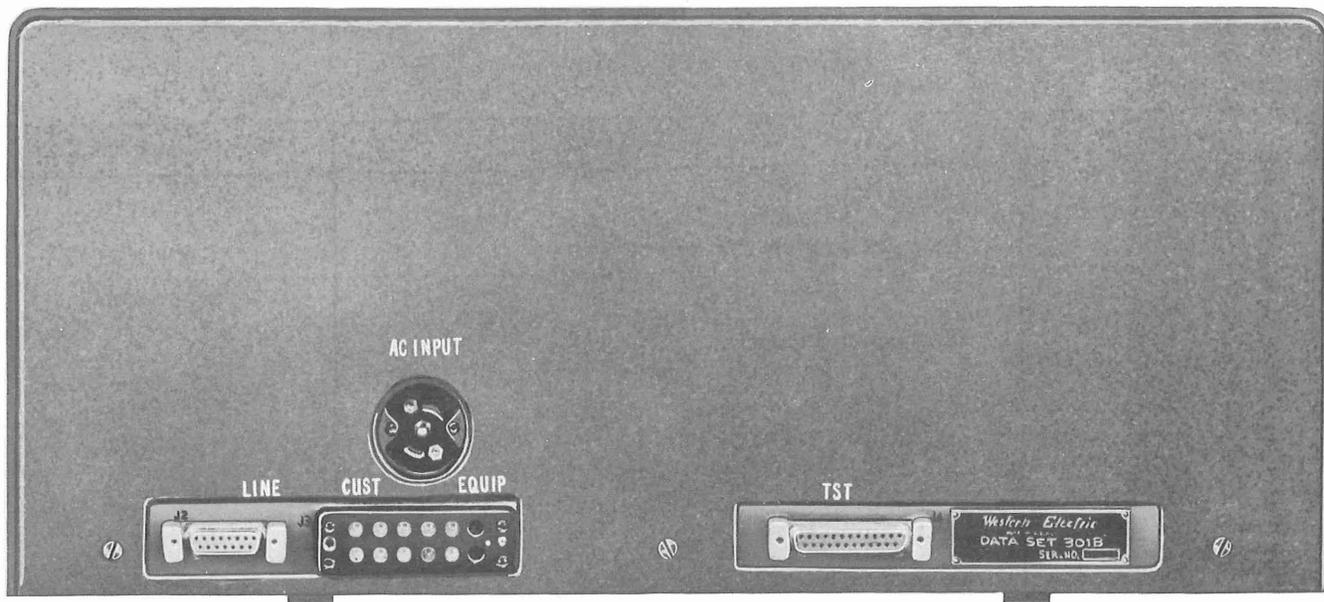

Fig. 3—Data Set 301B-Type, Rear View
**2.07** Figure 3 shows the locations of the various connectors on the rear of the data set.